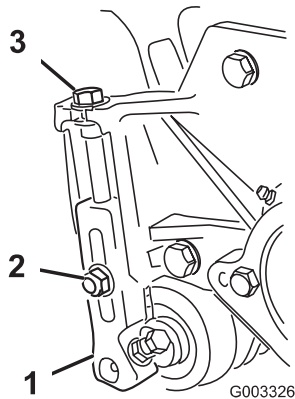

Figure 13
- 1. Loosen locknuts securing height-of-cut arms to cutting unit side plates (Fig. 13).